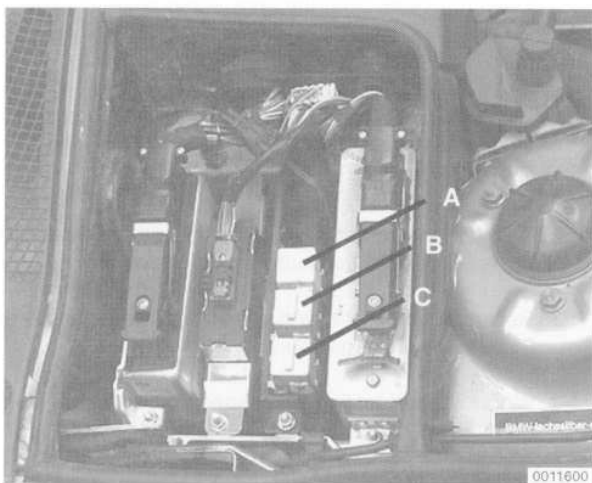

Fig. 4. Main relay (A) in electronics box (E-box). V8 relay position varies. Check sticker on E-box cover for V8 position.
1. With the ignition off, remove the main relay. See Fig. 4.